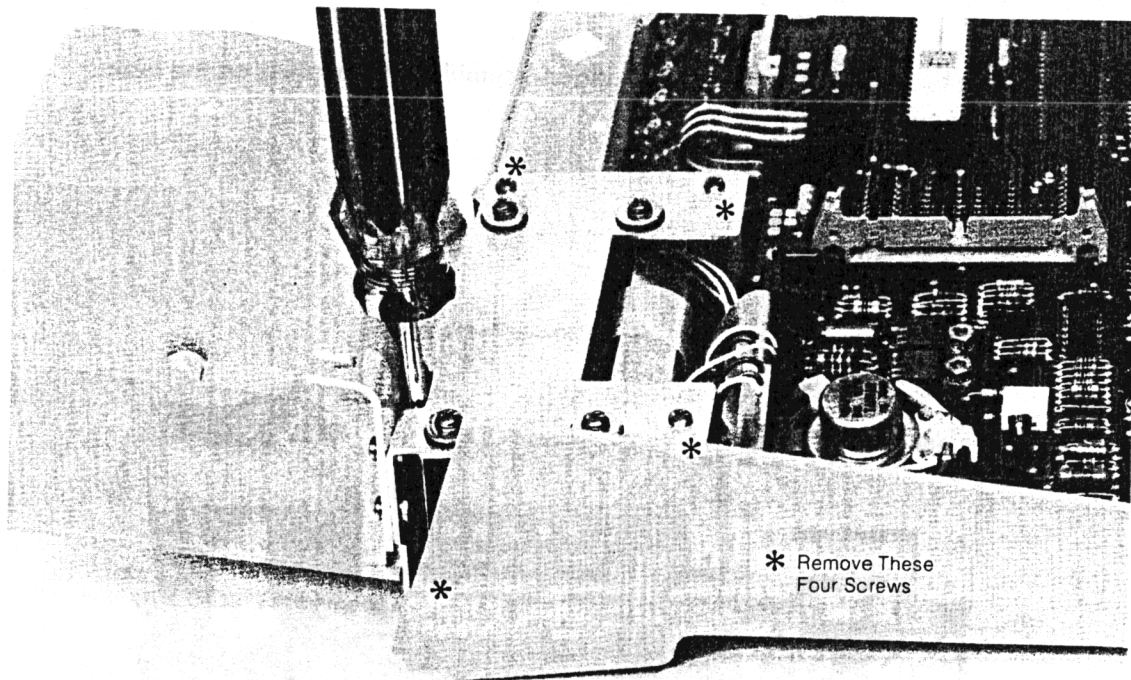

Figure 2-7 Printer Assembly Removal
- Remove the four screws that attach the printer to the bezel. Three of them are visible in Figure 2-7; the screwdriver is on the fourth screw.